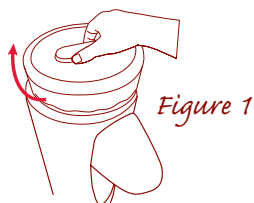

Figure 1
1. Make sure unit is unplugged. Place on a clean dry surface. Turn the unit so the back is facing you. Remove the Ice Reservoir Lid by turning clockwise to the unlock position (Figure 1).